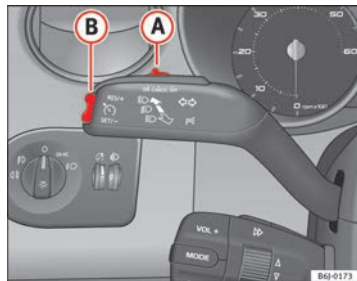

Fig. 122 Turn signal and main beam headlight lever: switch and rocker switch for the cruise control
- Press the upper part **RES** of the rocker switch ⇒ Fig. 122 **(A)** to increase the speed. The vehicle will continue to accelerate as long as you keep the rocker switch pressed. When you release the switch, the new speed is stored.
Cruise control is switched off if you reduce speed by depressing the brake pedal. Reactivate the control by pressing once on the upper part of the rocker switch **RES+** ⇒ Fig. 122 **(A)**.